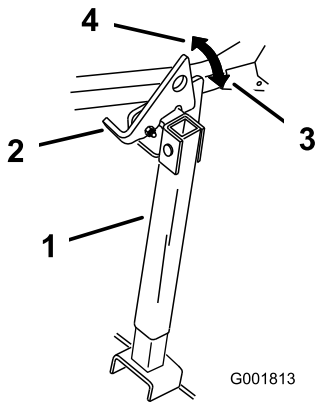

Figure 33
2. Raise the latch to the unlocked position (Figure 33).